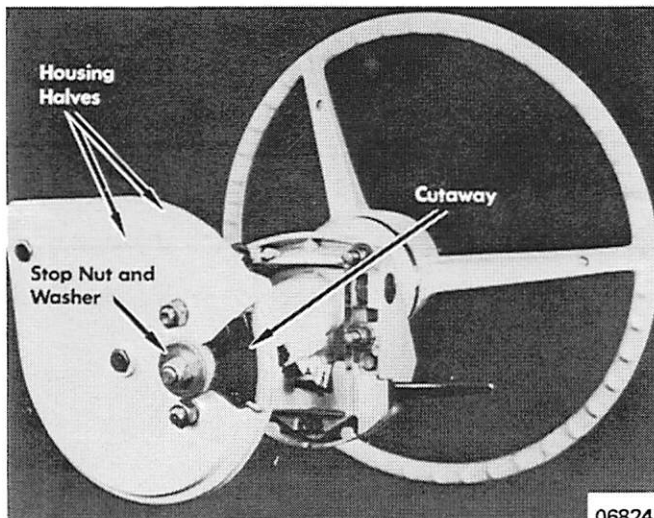

Figure 6. Steering Wheel Mounted
2. Install gear housing and pinion assembly onto the steering wheel post adaptor. Fit pinion into splined end of steering wheel shaft, install 2 washers and nuts and tighten securely. (Figure 6)
5. Slide gear housing and pinion assembly over thru bolt, fitting snugly into splined end of steering wheel shaft. (Figure 6) Attach housing to adaptor with 2 washers and nuts.